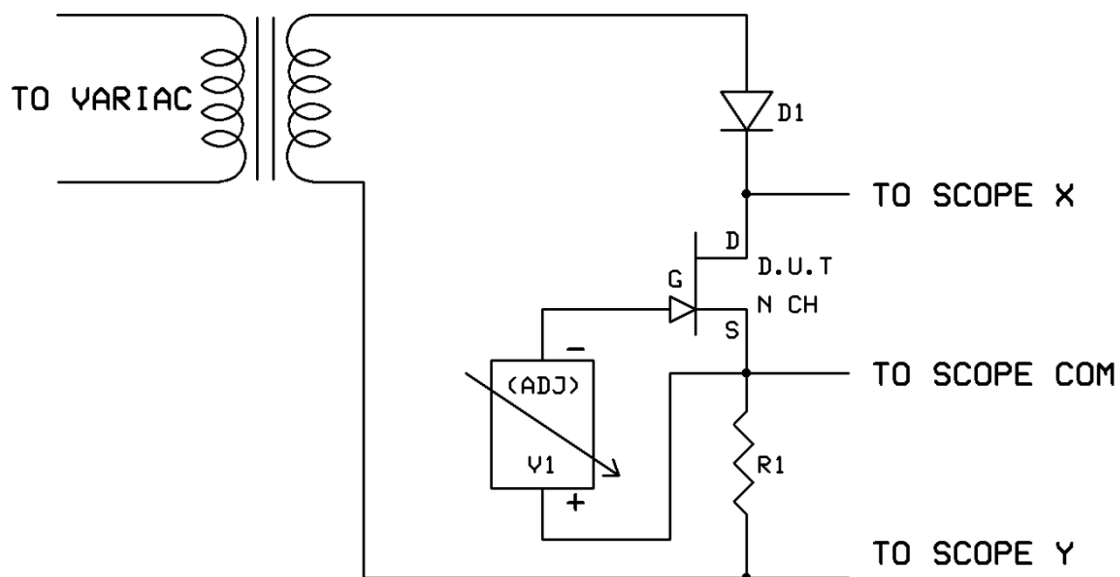

FIGURE 1
I wasn't able to find the official manufacturer's datasheet for these parts and the data that's out there is sketchy, but that's all part of the adventure. When I first wired-up the 2SK82 it worked, but it wasn't behaving like the characteristic curves from the internet*. Lacking a fancy curve tracer, I tried fiddling with the drain and gate voltage supplies to capture some data points, but this proved to be a little clunky and inaccurate as things tended to drift, so I built up the apparatus in Figure 1. If you have an oscilloscope with X-Y capability, you can use this setup to capture some current vs. voltage (IV) curves for yourself. This can also be handy for times when you'd like to look at a particular sample, or zoom in on a certain part of the graph.